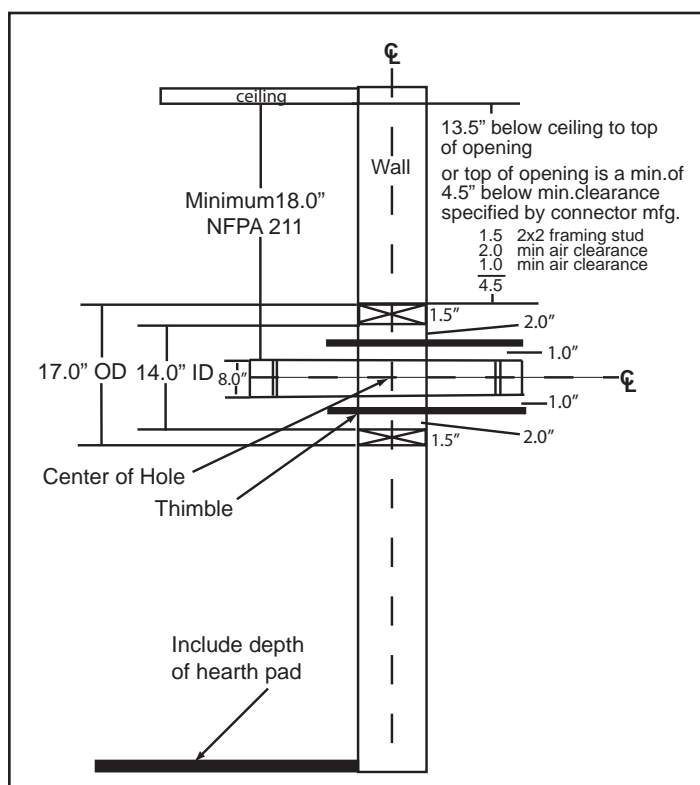

Figure 11.1
- Top of wall opening is a minimum of 13-1/2 inches (343mm) from ceiling or 4-1/2 inches (114mm) below minimum clearance specified by chimney connector manufacturer. NFPA 211 minimum vertical clearance of 18 inches (457mm) from chimney connector and ceiling or minimum recommended by chimney connector manufacturer. **Figure 11.1.**
1. Open inside wall at proper height for the chimney connector to entry the masonry chimney. **Figure 11.1**
3. Construct a 17 inch x 17 inch (432mm x 432mm) outside dimension frame from 2 x 2 framing lumber to fit into wall opening. Inside opening of frame should be no less than 14 inch x 14 inch (356mm x 356mm). **Figure 11.1.**